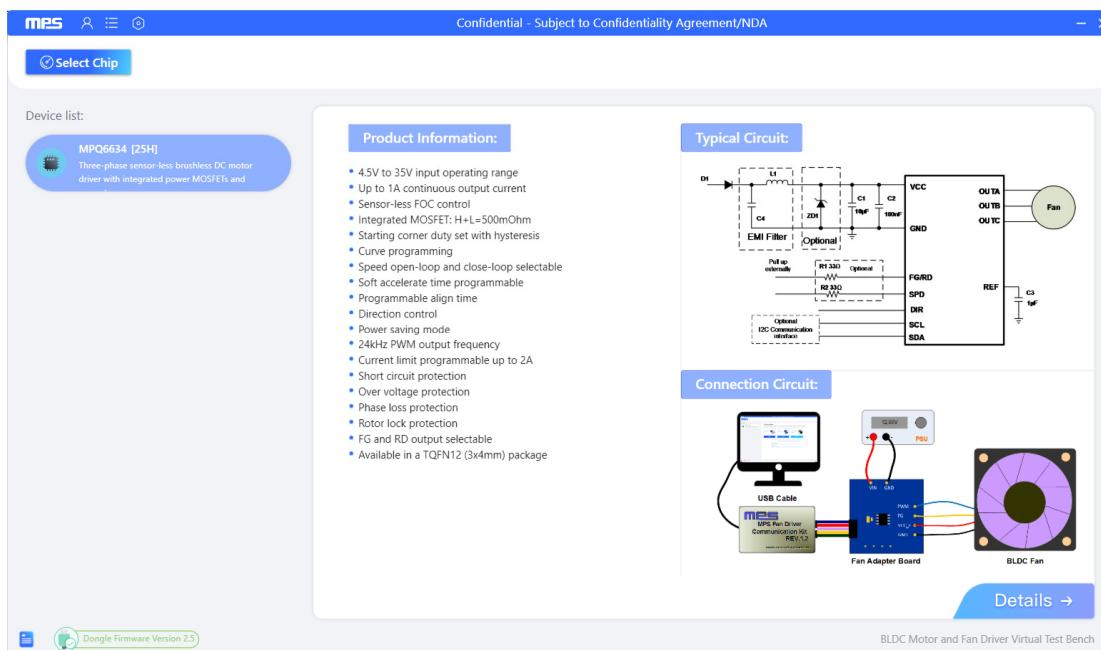

Figure 4: Enter the Test Mode
3. Click “Details” on the bottom-right corner to enter the test mode (see Figure 4).